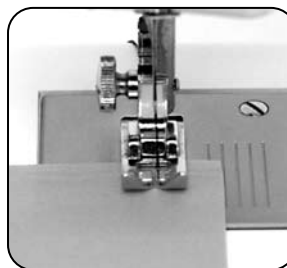

Fig. 1
4. Place the fabric under the presser foot aligning the cut edge of the fabric with the seam guide marking on the needle plate. Position the fabric so the needle is about 3/8" from the beginning fabric edge [Fig. 1].